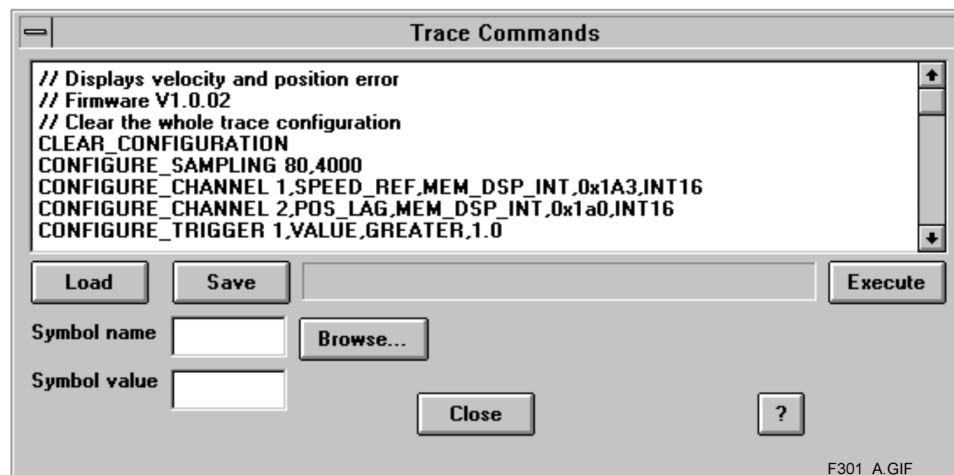
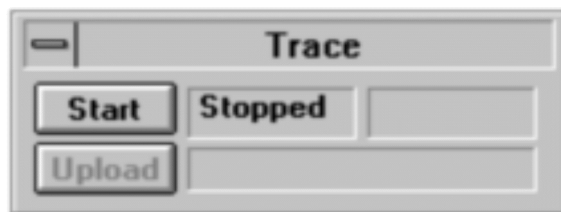

Figure 5 Trace Commands Dialog Box
Figure 6 Trace Control Panel
- 2) In the "Trace Commands" dialog box (see Figure 5) press **LOAD**. In the "Open" dialog box, select the subdirectory containing the trace commands file to be utilized. Trace Command files have the file extension ".STC". Click **OK**.
- 3) The selected trace command file (see Figure 5) is now displayed in the “Trace Commands” dialog box. It defines for each channel, the label and the type, the address and the size of the variable to display. Table 6 shows the type and the size of the most interesting variables to trace. For addresses, as they are related to the firmware version, please use the browser for the DSP variables or refer to the “ProMotion.hlp” help file for the i960 variable. A “Trace” control panel (see Figure 6) is also displayed.